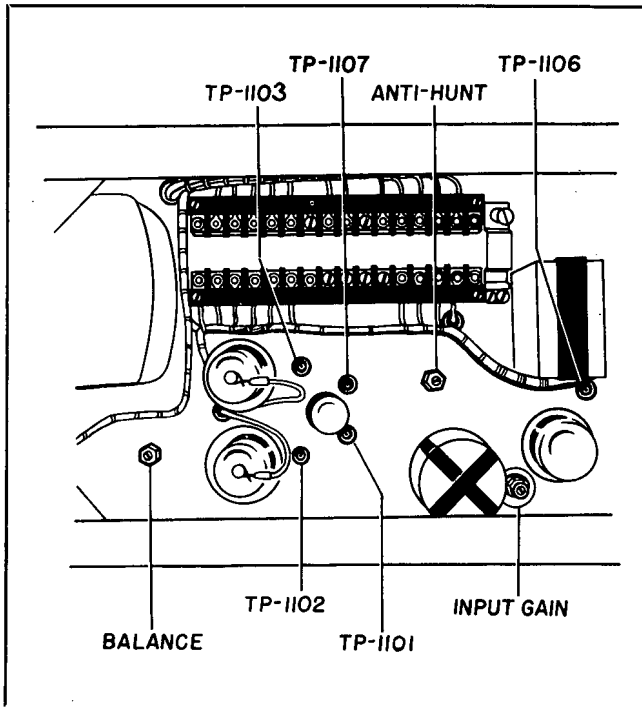

Figure 7-118. Internal Controls of Servo Amplifier
(1) Place the ROTATION SWITCH S-804 on the panel of the Bearing Indicator in its NORMAL position.
(2) Place the SLEWING MOTOR switch S-801 in its OFF position. This switch is located on the panel of the Bearing Indicator.
(3) Loosen the panel screws on the Servo Amplifier and pull the chassis forward until it locks. Turn the interlock bars so that the interlock switches are closed.
(4) Place the ON-OFF switch of the Rotation Control Unit in its ON position.
(5) Turn the INPUT GAIN control R-113 counterclockwise. See Fig. 7-118. If the Antenna hunts, connect an a-c voltmeter with a 50-volt range to terminals 63 and 64 on terminal board E-1103 in the top of the case. Then adjust the BALANCE control (R-1112) until the system ceases to hunt and the voltage reading is steady. This control is shown in Fig. 7-118.
(6) Place the SLEWING MOTOR switch in one of its 1¼ positions.
(7) Advance the setting of the INPUT GAIN control until the Antenna follows smoothly in both CW and CCW rotation. This can be observed by watching the Bearing Indicator dials.
(8) If the voltage indicated on the meter is fluctuating at 42 cps, adjust the ANTI-HUNT control R-1118 until the rotation is even and smooth and the voltage fluctuation disappears. This control is shown in Fig. 7-118. Again advance the INPUT GAIN control until hunting starts and re-adjust the ANTI-HUNT control as before to stop the hunting. Continue these two adjustments alternately until the opti-
imum point is reached where any further advance of the INPUT GAIN control cannot be compensated by adjusting the ANTI-HUNT control. Disconnect the voltmeter and connect it with a 0.5 mf capacitor in series with one of its leads to terminals 68 and 69 on terminal board E-1101. Adjust the ANTI-HUNT control for minimum voltage. See Fig. 7-118.